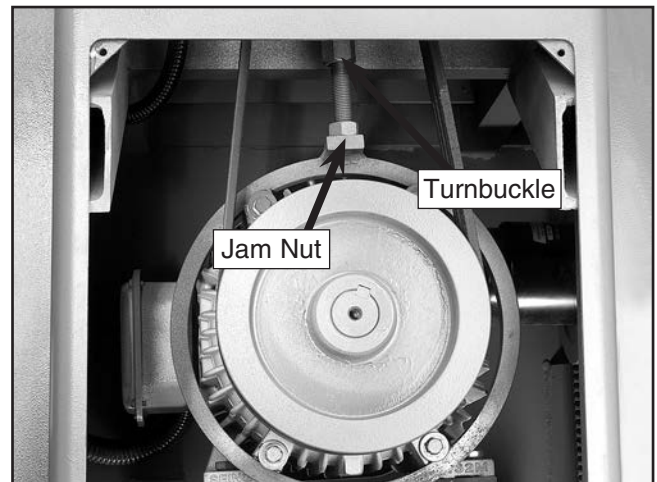

Figure 37. Arbor motor V-belt adjustment.
3. Loosen the jam nut (**Figure 37**).